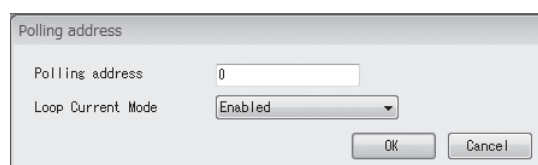

Fig.101
- ① Click on "Setup (S)" > "Polling address" in the menu and the following window (Fig. 101) will appear.